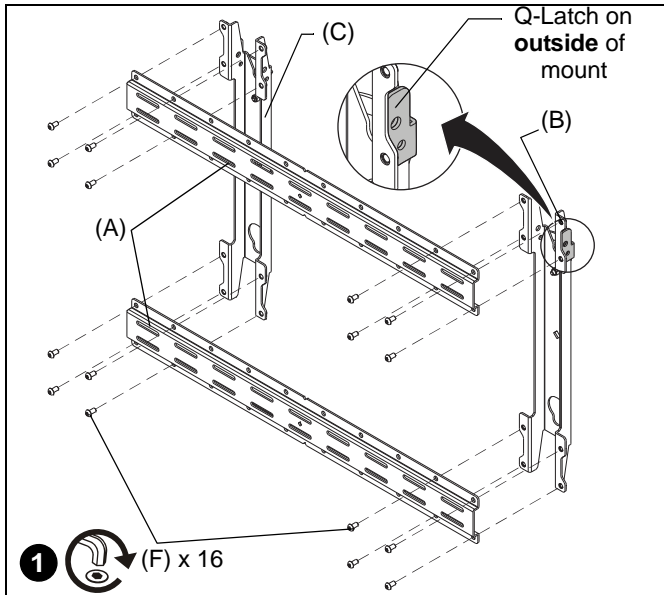

Figure 1
IMPORTANT ! : Be sure that Q-latches on vertical brackets are located on **outside** edges of mount. (See Figure 1)
1. Attach two vertical brackets (B and C) to two horizontal brackets (A) using sixteen M8 x 16mm buttonhead cap screws (F). (See Figure 1)